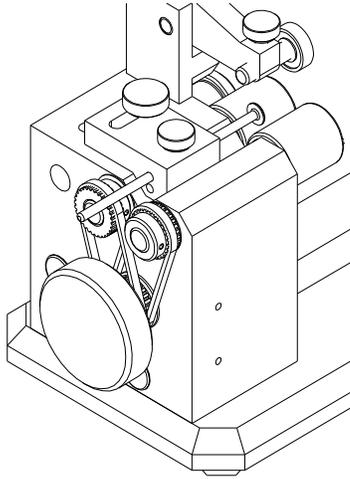
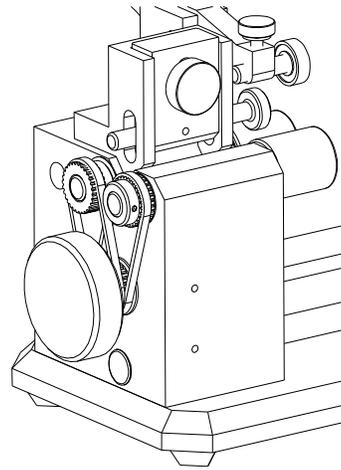

Figure 10. Top Stop (All Models)
Figure 11. Flat Plate Top Stop (Models –10 and –20 only)
7.0 Top Stop Set-up – (See Figures 10 and 11)
The Top Stop and Flat Plate Top Stop Assemblies are available as optional items to ensure that the part being inspected does not travel in a linear direction and produce false readings. Figure 10 shows a standard Top Stop Assembly that can be used with all Models. The Thumb Screw is loosened and the Pin is extended to contact the back end of the part. Figure 11 shows a Flat Plate Top Stop Assembly available for the –10 and 20 Models only. This assembly has an additional vertical adjustment that can be used to accommodate various part diameters. There are also different pin diameters available for more or less contact area.